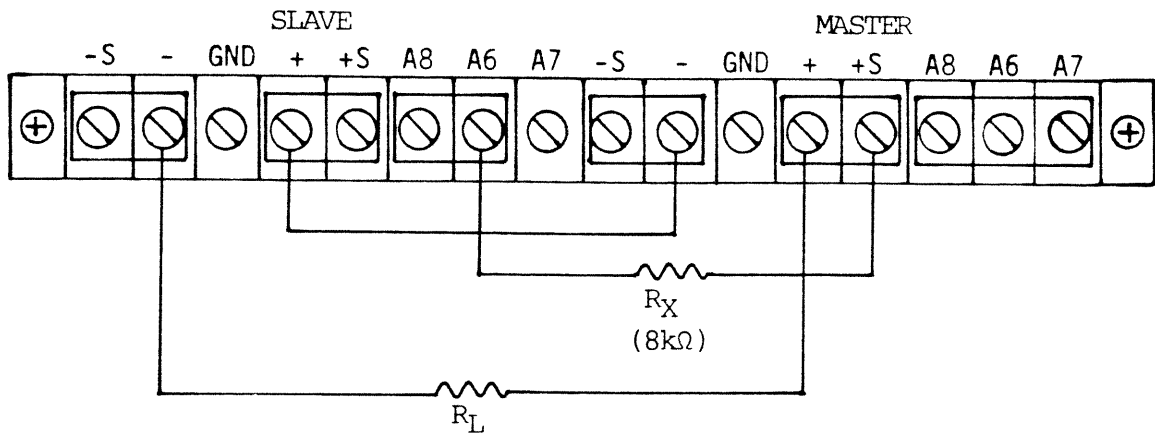

Figure 3-7. Auto-Series Stepping
(6) Auto-Series Operation. In the auto-series operation, a master/slave configuration is established. With two or more supplies connected in series, one is established as master and the remaining units as slave. In this mode the slave will track the master. The percentage of voltage tracking is determined by the slave front panel voltage control. See figure 3-7 for strapping requirements.